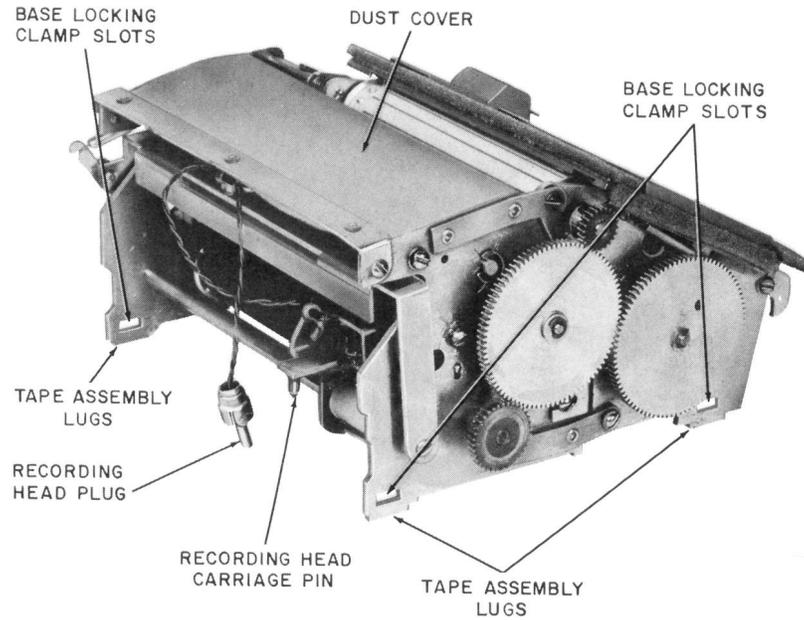
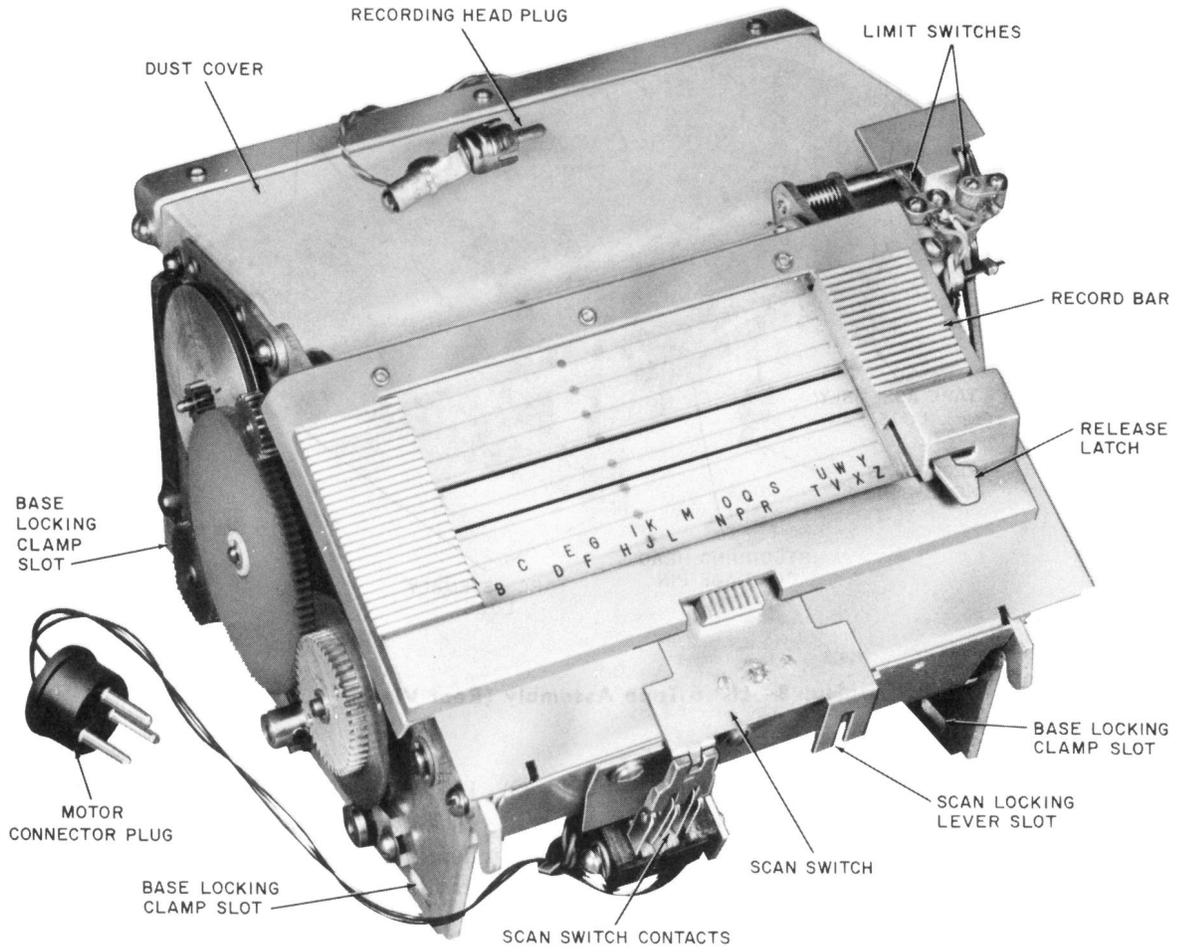

Fig. 8—List 6 Tape Assembly (Rear View)
Fig. 9—List 12 Tape Assembly
- (1) Disconnect recording head plug from jack (Fig. 8). On List 12 cartridges disengage scan motor power lead plug from jack (Fig. 9).